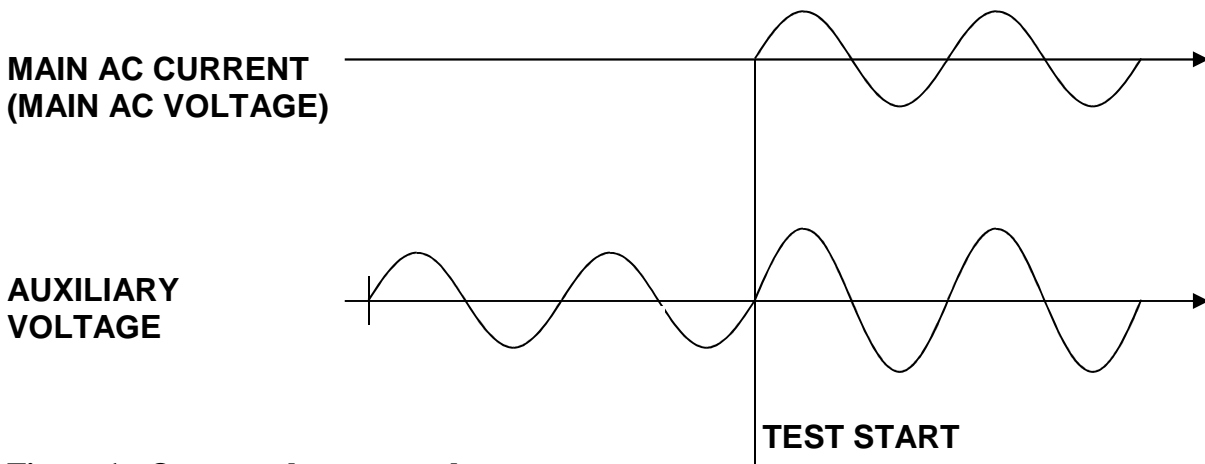

Figure 1 - Output voltage control
- Possibility to define the pre-fault voltage: in this mode, the control knob allows to adjust the pre-fault value, while the dedicated knob adjusts the fault value. Voltage output selection is automatic: pre-fault voltage with test stopped; fault voltage with test started. The switch from a value to the other one is performed without falling to zero. The main current or voltage is generated at the zero crossing; the fault one is generated at the meantime of main voltage or current (figure 1). The selection of the reference is performed automatically, following the selection of main output measurement. If the main DC voltage is selected the reference is taken on the main AC voltage. This feature allows testing voltage relays (27-59) or synchronizing relays (25).